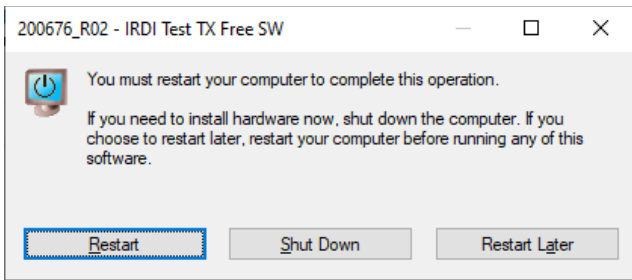

FIGURE 4-12 RESTART COMPUTER
STEP 8	Restart – see Figure 4-12. Click Restart.